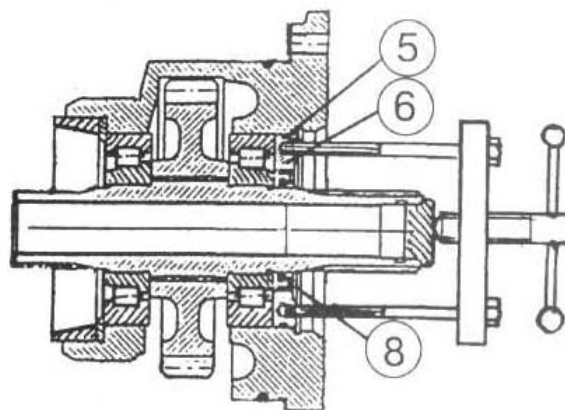

Figure 4.111
d) remove from shell 6 (Figure 4.111) sealing ring 5 and press out sealing ring 8;